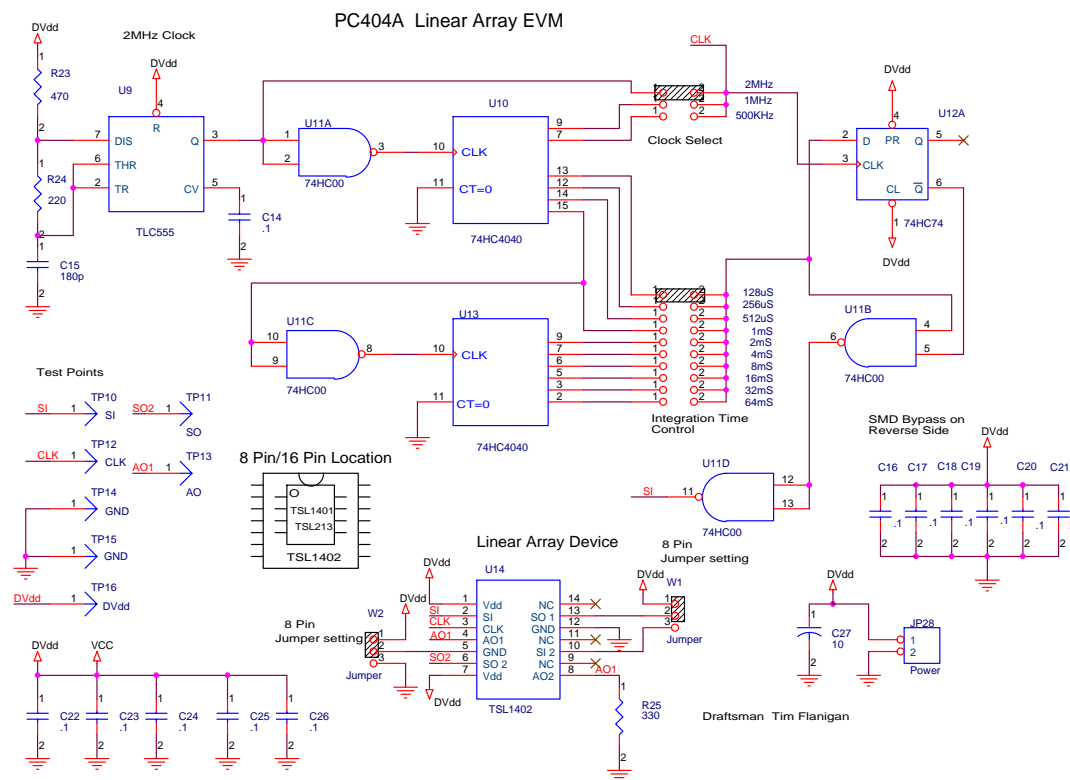
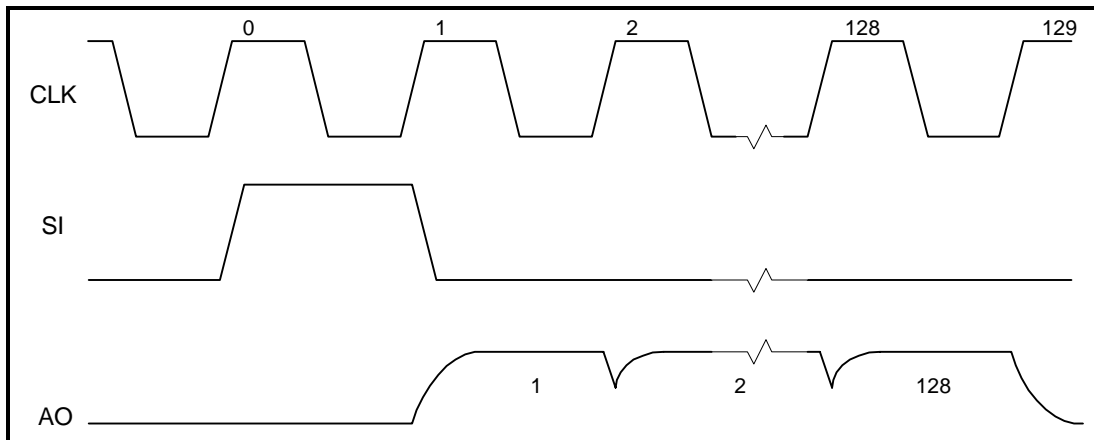

Figure 1 - PC404A Schematic Diagram
Figure 2 - System Timing (AO output for TSL1401 shown)
be selected from 2 MHz, 1 MHz and 500 kHz by moving the clock select jumper to the desired position (see Figure 1). U10, U11, and U12 generate the serial input (SI) pulse with the proper relationship to the clock (see Figure 2). The sensor integration time, defined by the time between SI clock pulses, may be selected from 128 $\mu$ S to 64mS by placing the jumper at the appropriate location.